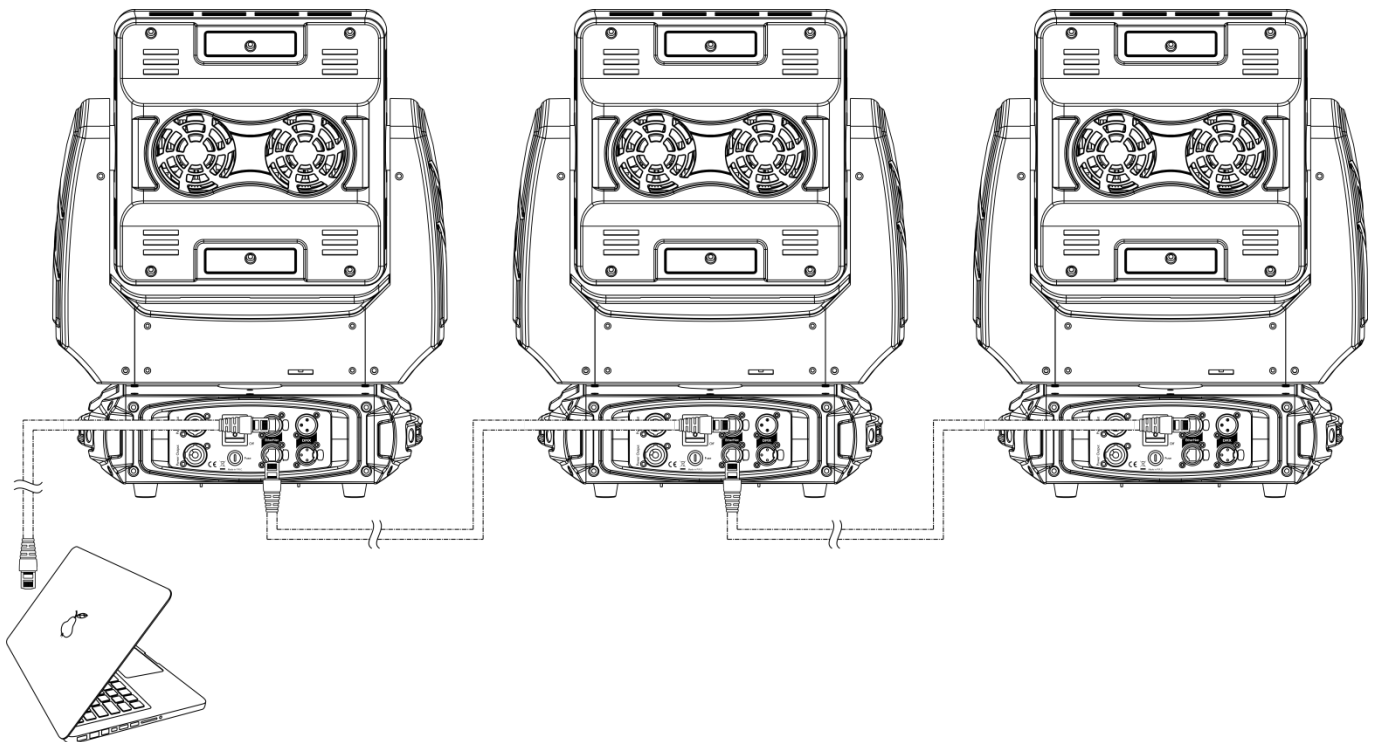

Fig. 05
- 04) Link the units as shown in fig. 05. Connect the first Phantom's RJ45 "out" socket with the second unit's "in" socket, using a CAT-5/CAT-6 signal cable. Repeat this process to link the second, third, and fourth units.